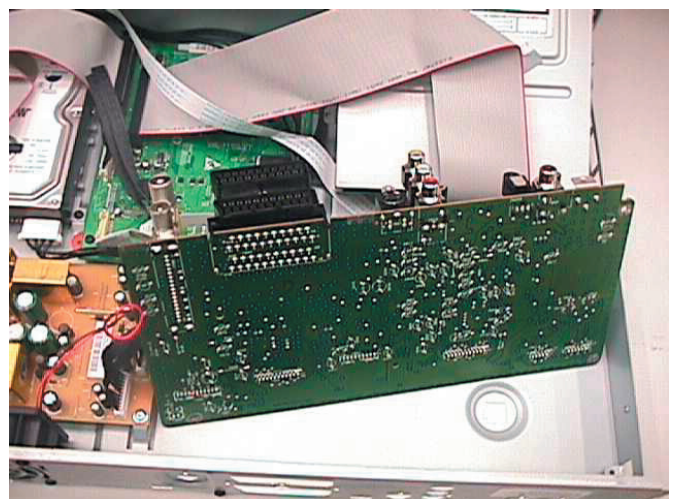

Figure 4-14: Analog Board Service Position
- 4) Service Position is achieved by placing the Analog Board in the vertical position as shown in Figure 4-14.